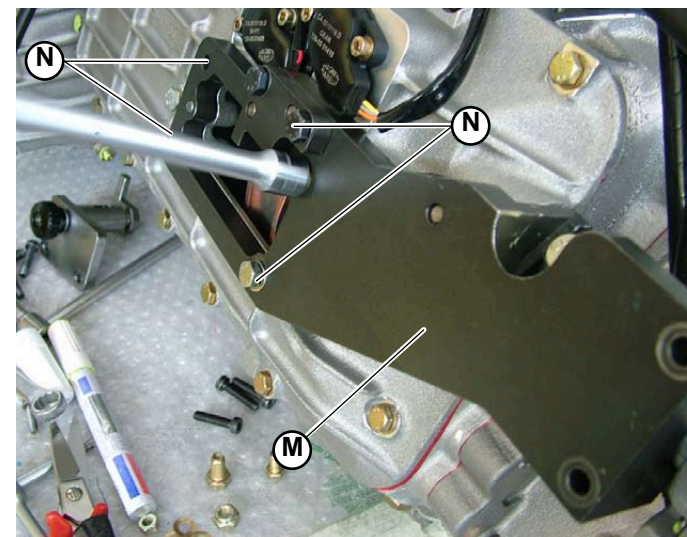
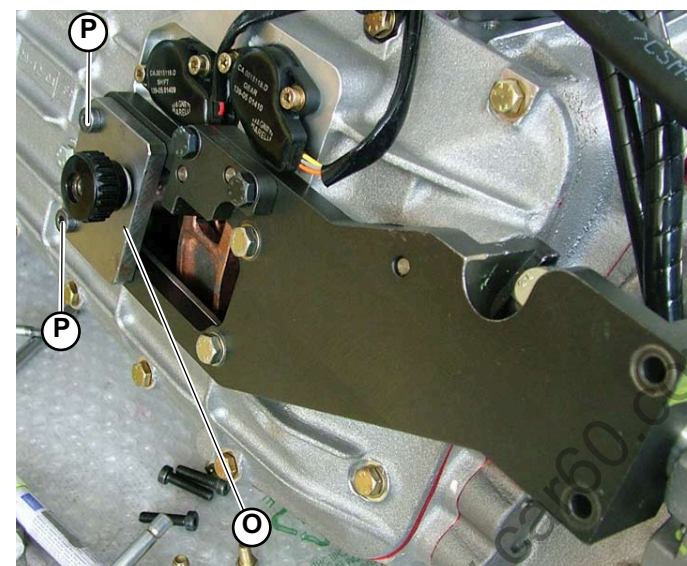
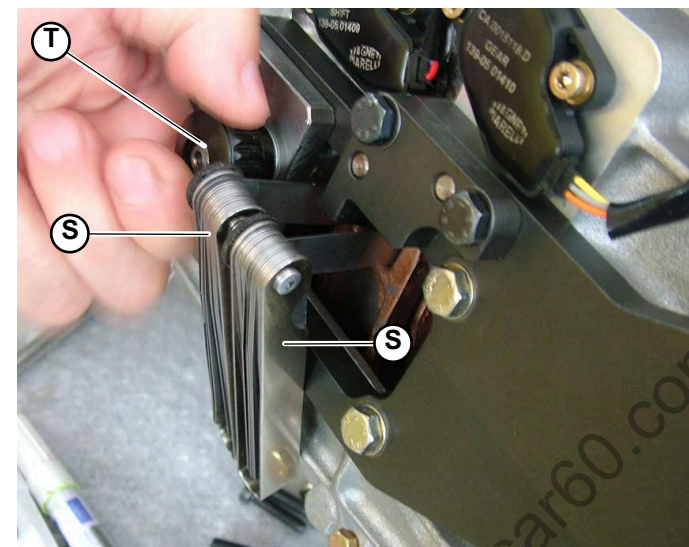

Fig.4
Fig.5
Fig.7
6. Assemble the reset tool (**M-Fig.4**) and tighten it using the 4 screws (**N-Fig.4**).
7. Assemble the tooth (**O-Fig.5**) and secure it to the reset tool using the 2 special screws (**P-Fig.5**).
9. Insert the 2 thickness gauges (**S-Fig.7**) and use the tooth's knob (**T-Fig.7**) to obtain the correct thickness.
11. Remove the 2 thickness gauges (**S-Fig.7**). Disassemble the tooth (**O-Fig.5**) and the reset tool (**M-Fig.4**).